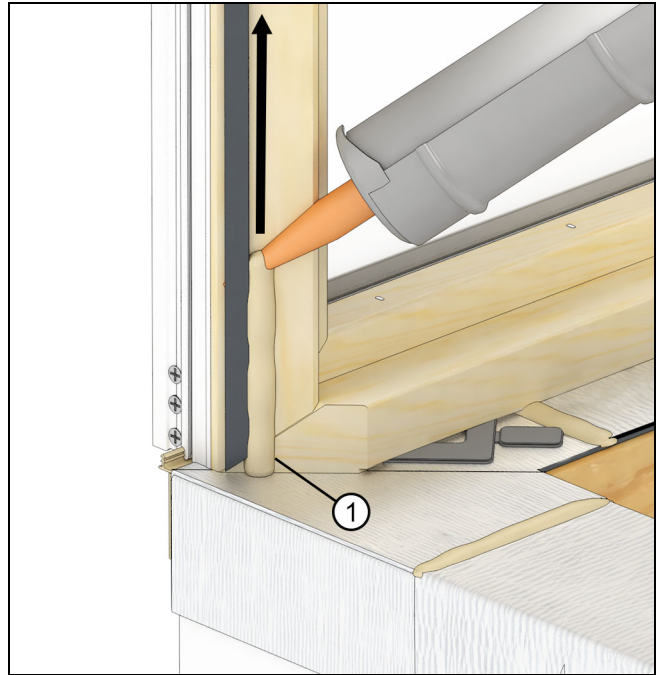

Figure 37
4. Place a 1/4" (6) bead of adhesive the full length of the center jamb along the interior side of the gasket. See Figure 37.